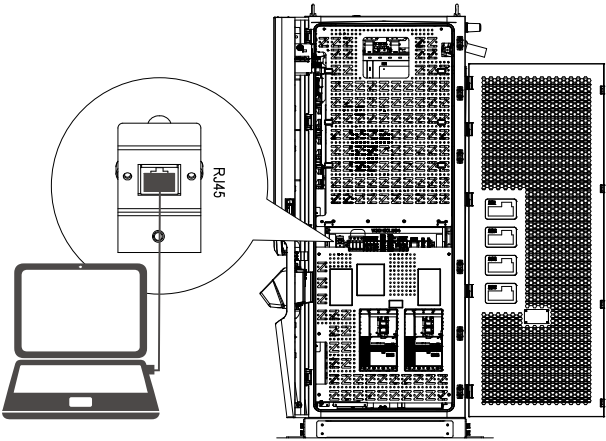

Figure 4-1. RJ45 Port
- Connect an RJ45 cable. Refer to the following figure 4-1.